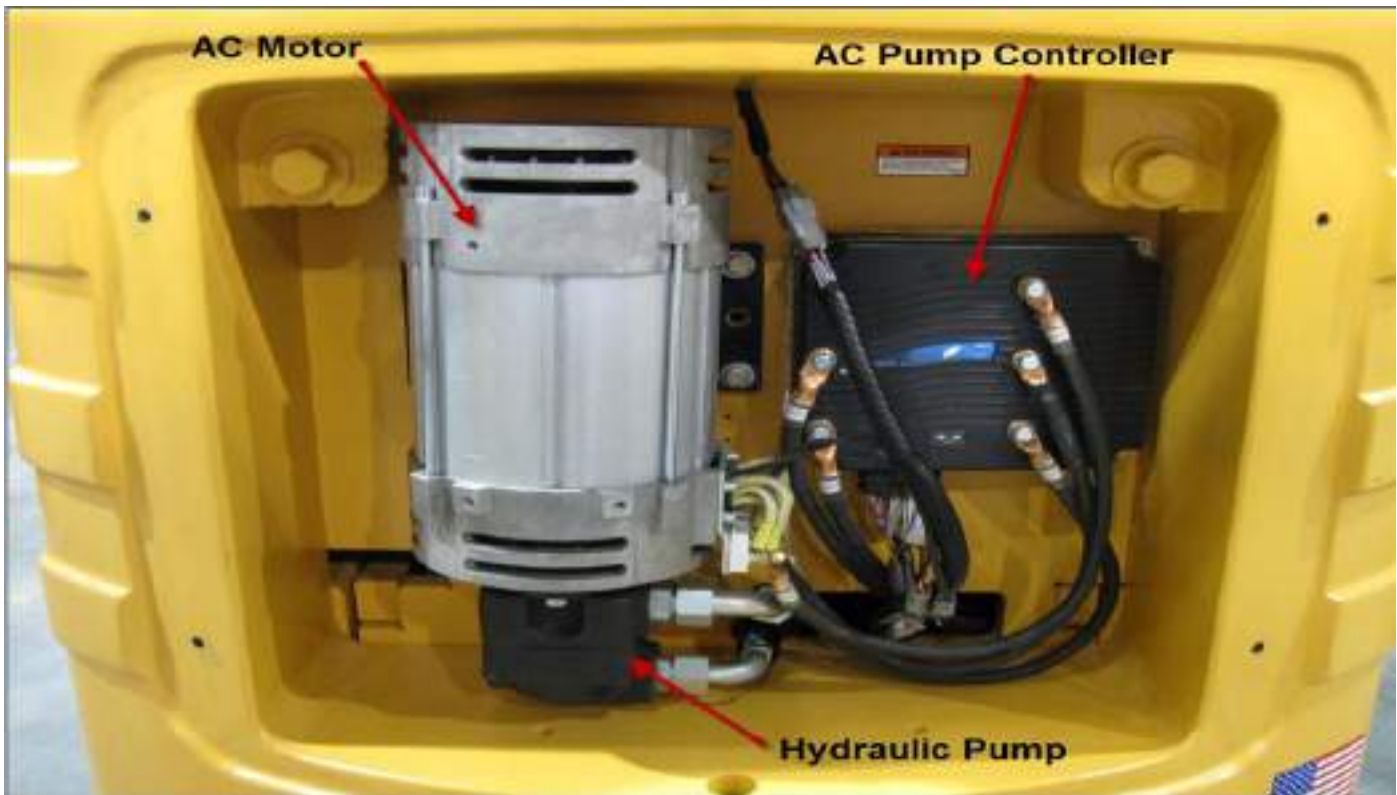

Figure 4-7 AC Motor, Pump and Controller
7. Remove mounting hardware that secures the assembly to the truck and remove the panel or single component from the truck. (See Figure 4-7)